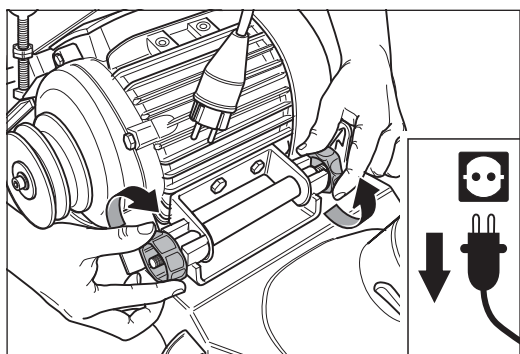

Fig. 33 Tighten the two motor nuts.
- 5 Tighten the two motor nuts (Fig. 33) **slightly**.
- 8 Tighten the two motor nuts (Fig. 33).